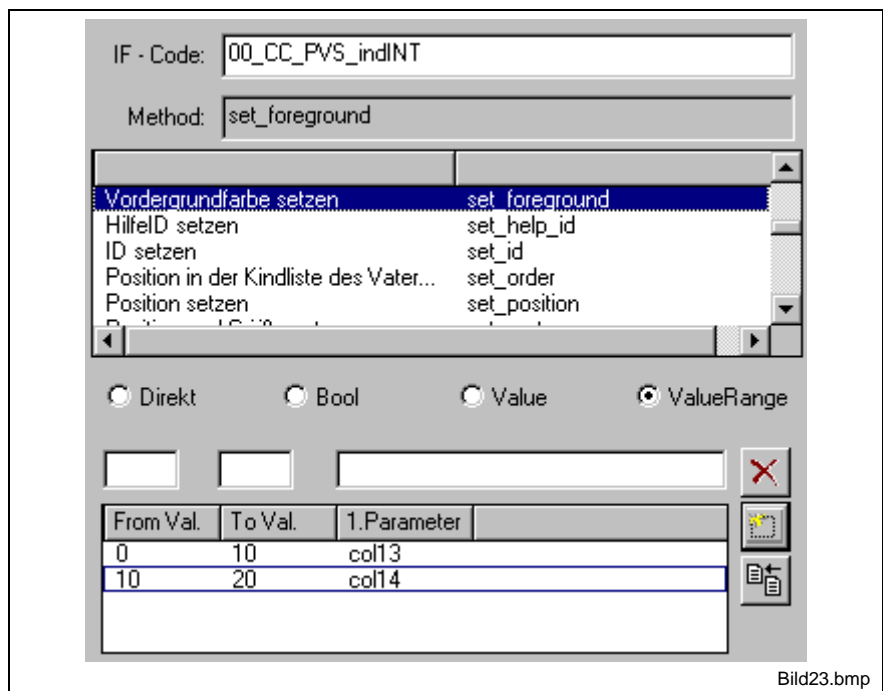

Fig. 5-12: Setting the foreground color with the Value range
2. set\_foreground see Fig. 5-12